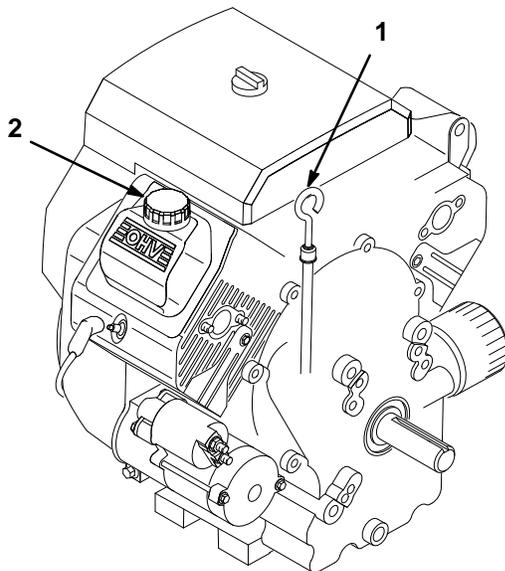

Figure 4
3. Clean around the oil dipstick (Fig. 4) so dirt cannot fall into the dipstick tube and damage the engine.
5. Slide the oil dipstick fully into the dipstick tube (Fig. 4). Pull the dipstick out and look at the metal end. If the oil level is low, add oil; refer to Engine Oil, page 26.